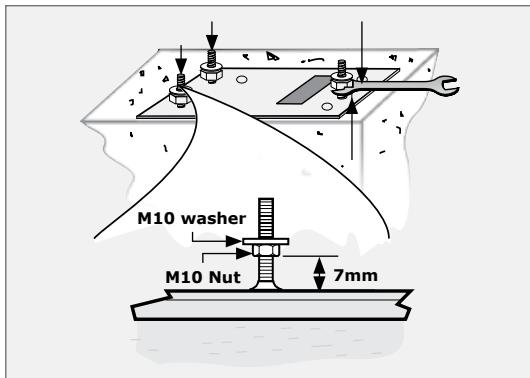

FIGURE 16
- Fit the M10 nuts and washers to the mounting bolts as shown in Figure 16